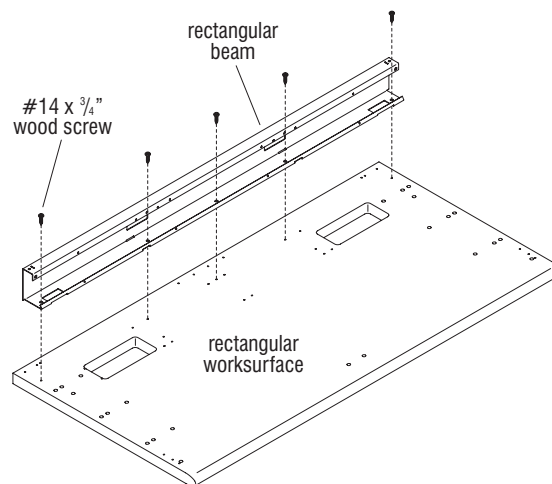

Figure 1 - Rectangular Worksurface
2. For each rectangular worksurface, align one rectangular beam's mounting holes with the pre-drilled mounting holes on the worksurface as illustrated. Secure the beam to the worksurface using #14 x 3/4" wood screws with the provided extended T-30 Torx driver bit (Figure 1 & Detail A).